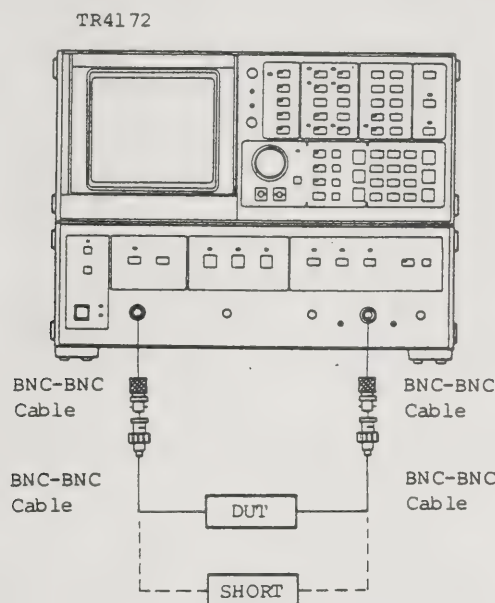

Fig. 6-7 Measuring system setup
- (1) Connect the device under test (DUT: filter) across the tracking generator output and input connectors on the TR4172 as shown in Figure 6-7.
- (2) In general, various types of SAW filter are available with input/output impedance of 50 Ω , 75 Ω , 200 Ω , 300 Ω , 1k Ω , and more than 1 k Ω . Before measurement, use an appropriate measure to obtain impedance matching between the SAW filter and the instrument. A schematic diagram of the recommended matching network can be obtained from the manufacturer of the filter.
- (3) A saw filter usually has a 20 dB insertion loss. To compensate for this loss, some filters contain an amplifier. If a filter with a self-contained amplifier is to be used, note the maximum output level of the tracking generator.
- (4) Use the shortest possible input cables.